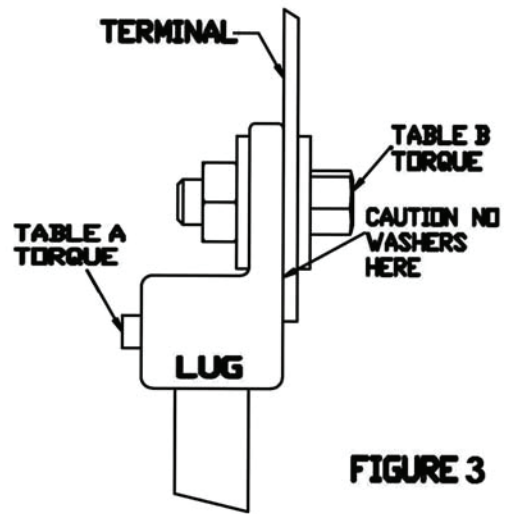

FIGURE 3
- Insert the bolt with a flat washer under the head through the holes of the lug and the terminal. Add a flat washer, lock washer and a nut on the opposite side (see **Figure 3**). Tighten per **Table B**.
- There must not be any washers between the terminals and the lugs (see **Figure 3**).